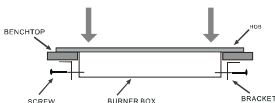

Fig. 2B
- RETAINING BRACKETS** (Refer to Fig 2B).